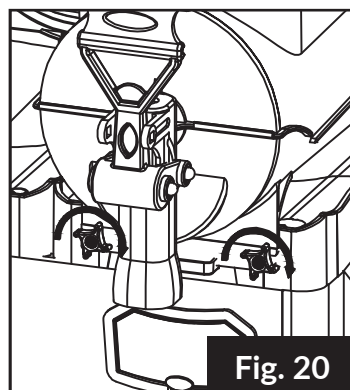

Fig. 20
7. Secure the bowl by screwing the Bowl Fixing Knobs clockwise. (Fig. 20)